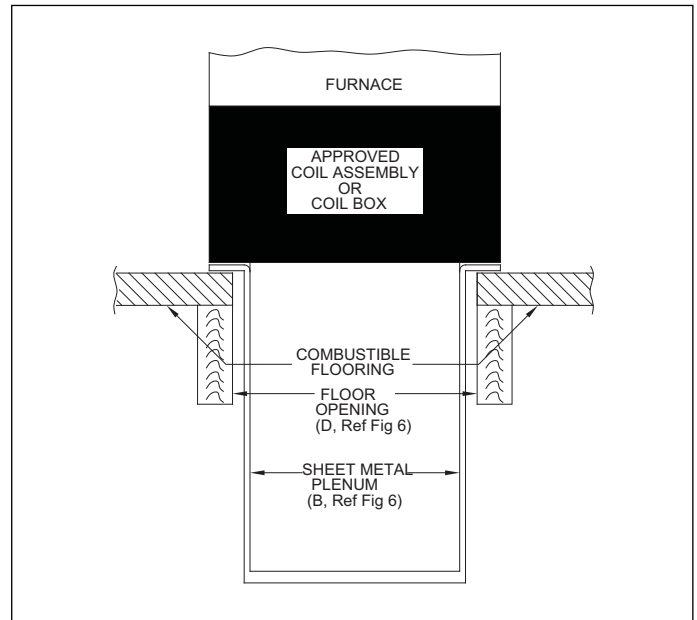

Figure 8 Furnace, plenum, and coil assembly or coil box installed on a combustible floor
5. If Coil Assembly or Coil Box is used, install as shown in Fig. 8.